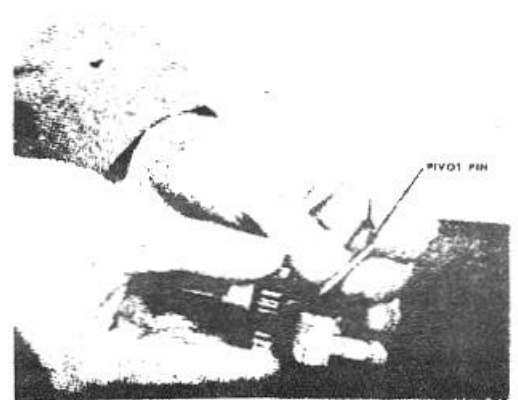

Figure 4-39. Insert the pivot pin.
7. Place the weights and shaft inside the weight carrier and insert the pivot pin. Fig. 4-39.